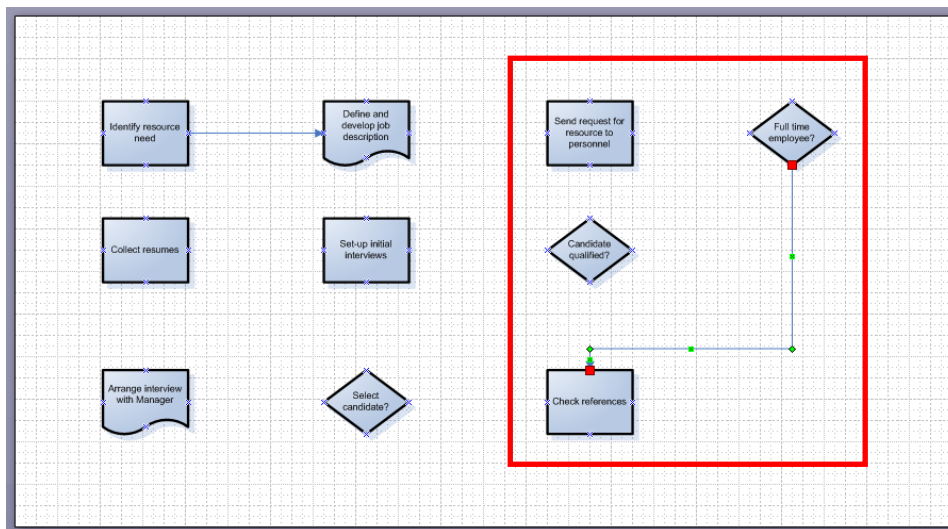

Figure 14 – Shape-to-shape Connection Using the Connector Tool
3. Hold down the mouse button and drag to the center of the **Process** shape  in the third row (see Figure 14). When a red box appears around the **Process** shape, release the mouse button.